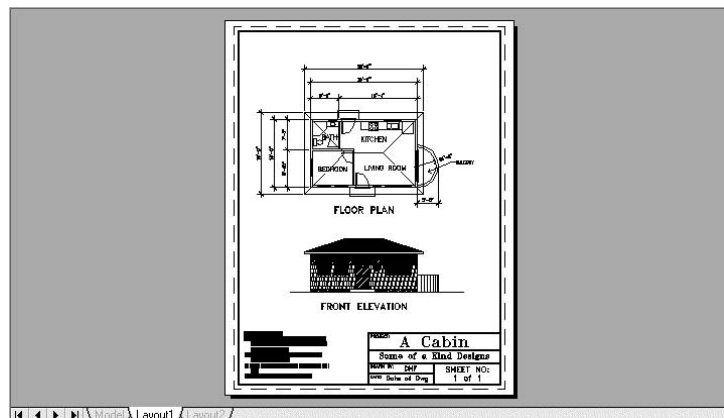

FIGURE 13.10: Cabin11a with the title block and border on Layout1
13. Tblk-L1 should be current. Freeze the Vports-L1 layer (see Figure 13.10). The drawing looks much like the original Cabin11a before layouts were introduced, but we now have the title block and border on a layout at 1:1 scale.